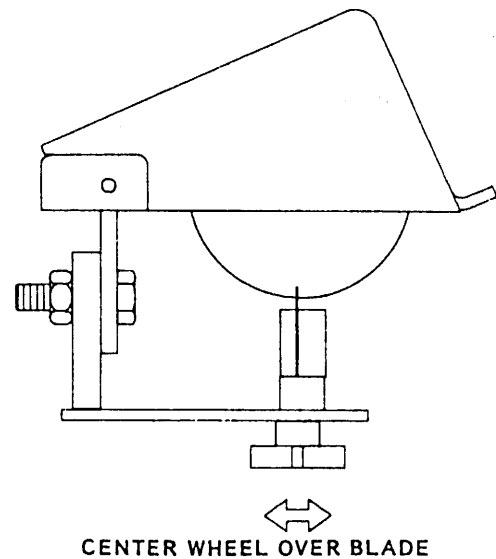

FIGURE 6
2. Position the blade so the first tooth right of the weld is positioned at the front of the machine. Position blade clamping fixture so that the wheel's lowest point contacts the blade gullet. To adjust, loosen the star screw knob underneath the unit (See Figure 6).